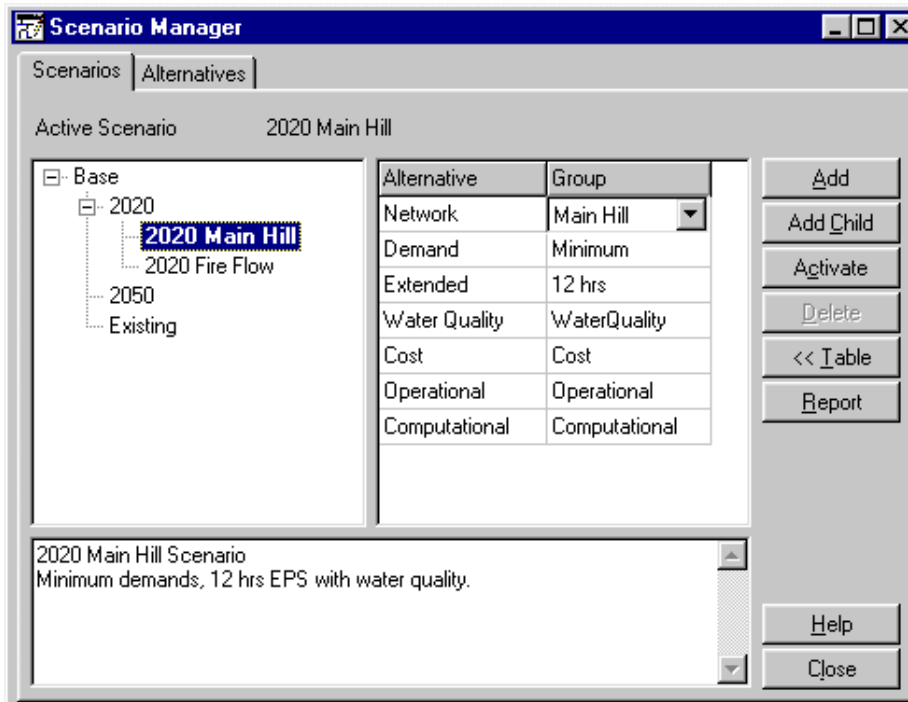

Figure 1: Scenario Manager Dialog, Scenario Tab
- Scenarios - for creating, editing and managing scenarios, see Figure 1